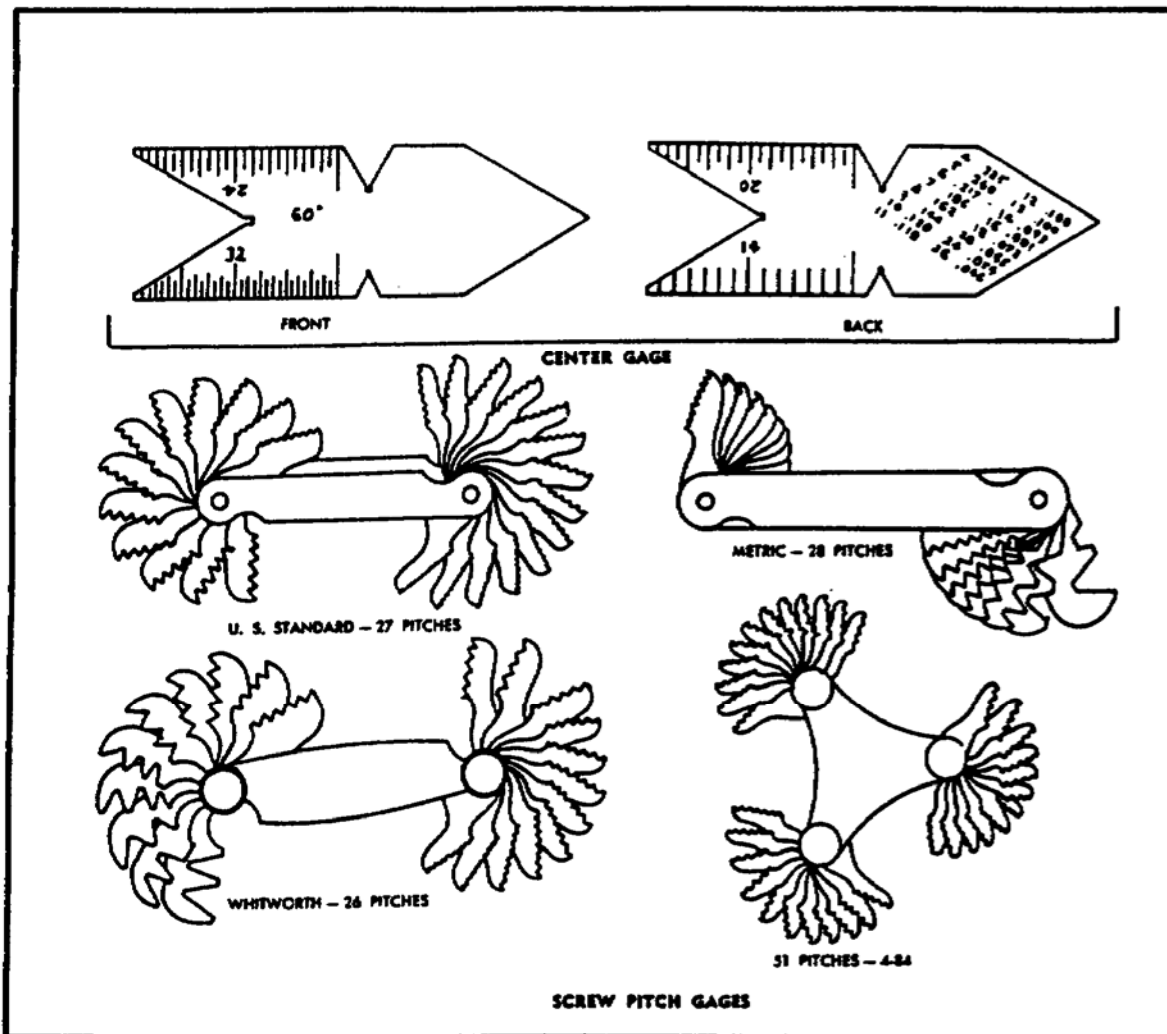

FIGURE 199. CENTER AND SCREW PITCH THREAD GAGES.
(1) *Center Gage.* The center gage (figure 199) is graduated in 14ths, 20ths, 24ths, and 32nds of an inch. The back of the center gage has a table giving the double depth of thread in thousandths of an inch for each pitch. This information is useful in determining the size of tap drills. Sixty degree angles in the shape of the gage are used for checking Unified and
(2) *Screw Pitch Gages*. Screw pitch gages (figure 199) are made for checking the pitch of U.S. Standard, Metric, National form, V-form, and Whitworth cut threads. These gages are grouped in a case or handle, as are the thickness gages. The number of threads per inch is stamped on each blade. Some types are equipped with blade locks. The triangular shaped gage has 51 blades covering a very wide range of pitches, including 11 1/2 and 27 threads per inch for V-form threads.